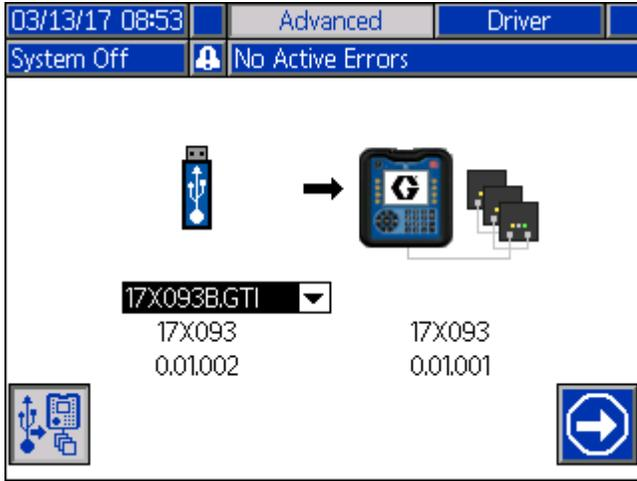

FIG. 10: USB Software Update Screen
- When the process is ready to begin, the screen automatically transitions to the USB Software Update screen shown in **Figure 10**.
- Press the ADM's Enter key (C) to change the selection on the USB drive. This opens the drop down menu showing the available software update files (up to 14 files).
- Use the directional keypad (D) to highlight the desired update and press the Enter key (C) to select the update.
- Press the soft key (A) next to the Continue  icon to begin the software transfer. In the example in **Figure 10**, software version 0.01.002 of the 17X093 software will be copied from the USB drive and will overwrite version 0.01.001 of 17X083 on the token.